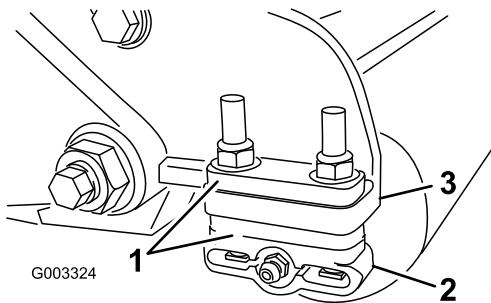

Figure 11
1. Adjust the rear roller brackets (Figure 11) to the desired height-of-cut range by positioning the required amount of spacers below the side plate mounting flange (Figure 11) per the HOC Chart.